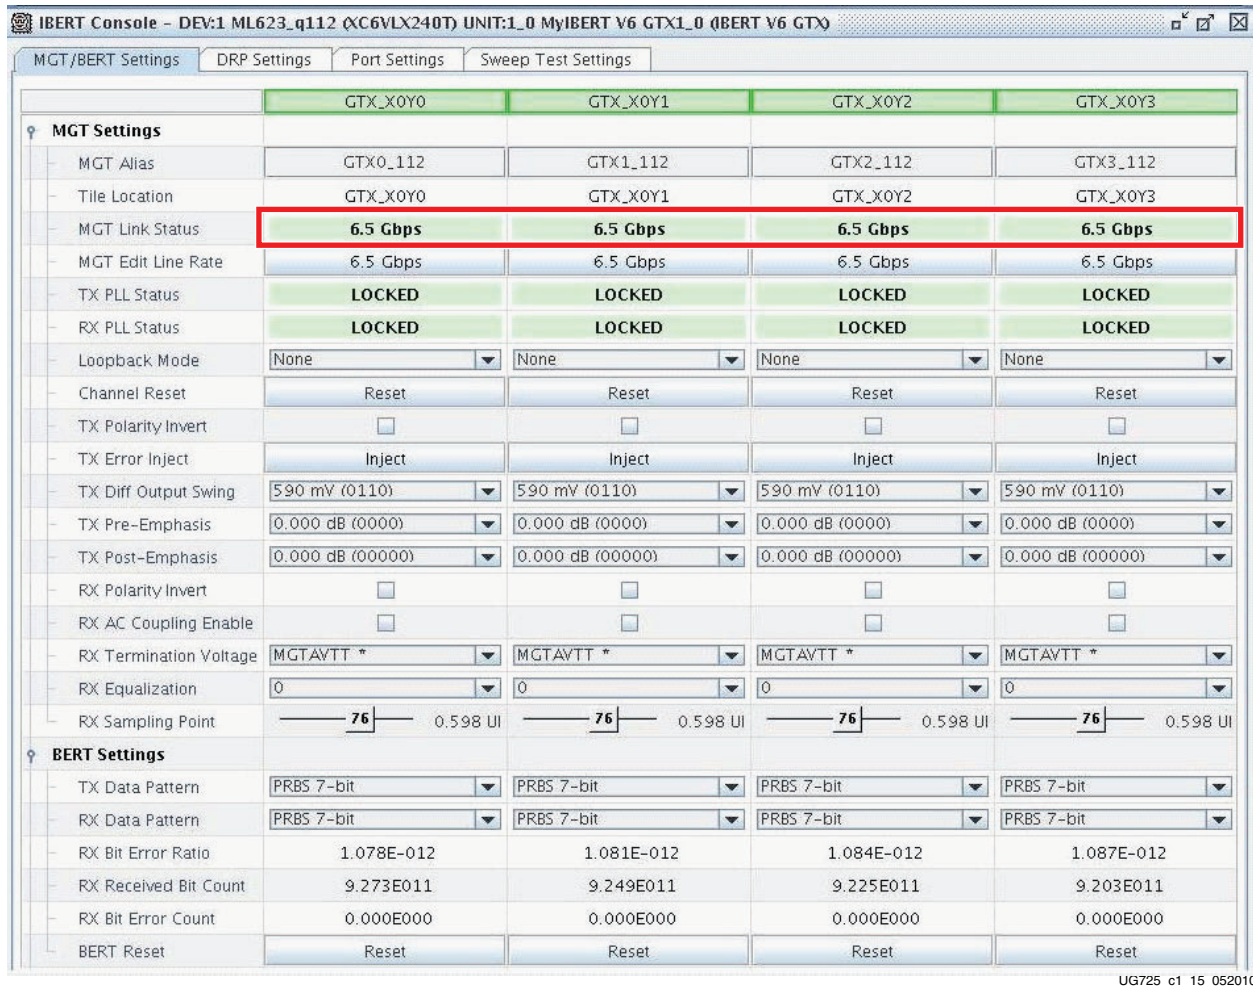

Figure 1-15: GTX Transceiver Link Status
- Note the line rate is 6.5 Gb/s for all four GTX transceivers (MGT Link Status in Figure 1-15).